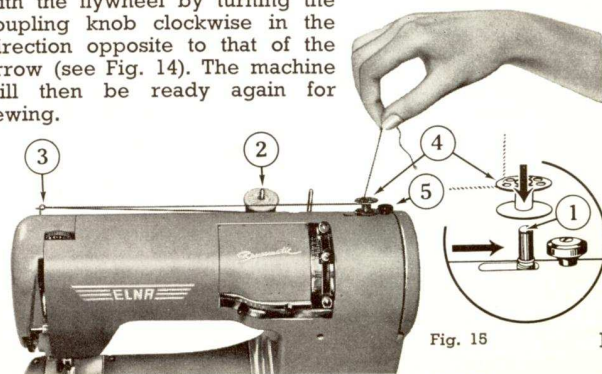

Fig. 15
Push the bobbin winder (1) against the flywheel (see arrow, Fig. 15). Place your spool of thread on one of the spool pins (2), so that the thread will run off the spool on the side facing the machine.